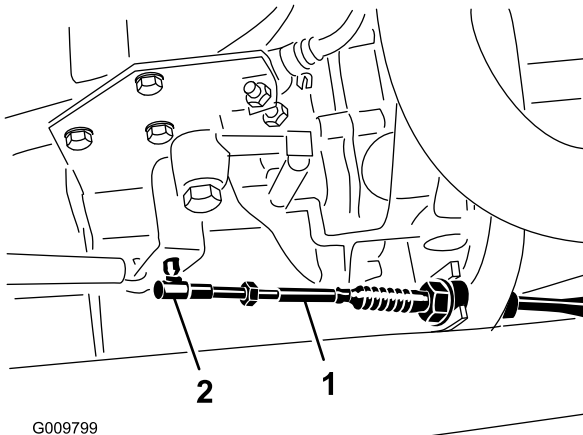
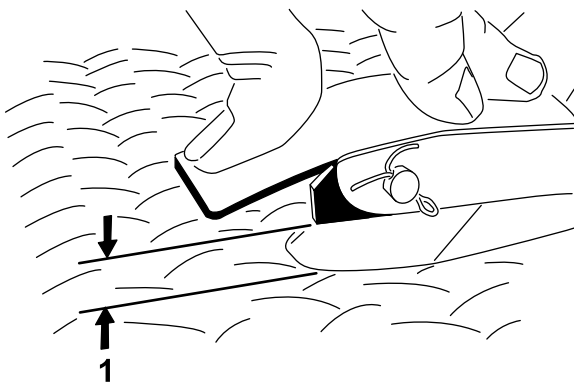

Figure 59
Figure 60
2. Adjust the ball joint on the accelerator cable (Figure 59) to allow 2.54 to 6.35 mm (0.100 to 0.250 inch) of clearance between the accelerator pedal arm and the top of the diamond tread floor plate (Figure 60), when a 111 N (25 lb) force is applied to the center of the pedal. Tighten the locknut.